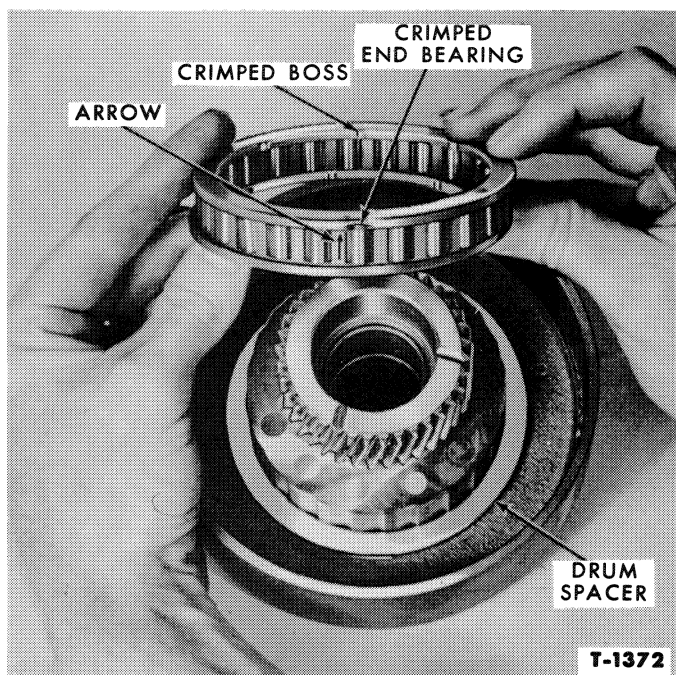

Figure 111—Positioning the Overrunning Clutch
3. In those assemblies using a drum spacer, check to make sure the drum spacer is installed squarely against the drum. See Figure 111. The spacer properly positions the clutch with respect to the retaining snap ring groove for proper end clearance.
4. Position the overrunning clutch, noting that either the arrow head or crimped end bearing is positioned up, over the sun gear race, Figure 111. The crimped bosses on the I.D. of the end bearings are to be aligned in adjacent valleys. *Do not attempt to align the upper and lower end bearing bosses in the same valleys as malfunctioning will result.*